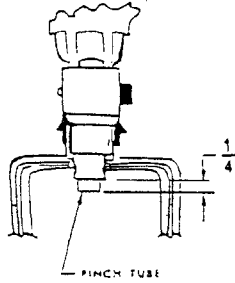

Figure 3
3. With your other hand, pick up pinch tube as shown in sketch and carefully insert tube into bowl spout opening and on into lower opening of handle support spout. Make sure the end of the tube does not get caught on the edge above the handle support spout opening. Using your thumb, push pinch tube into bowl spout opening. When the end of the tube passes beyond the bottom of the handle support spout opening, pull the end of the tube top into the bowl spout seat. Make sure tube is free of wrinkles. The tube should extend about  $\frac{1}{4}$ " below the handle support spout (see Fig. 3 next page).